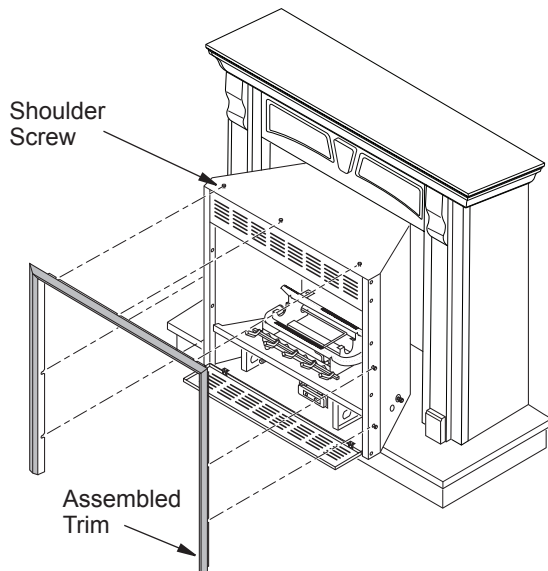

Figure 11 - Inserting Fireplace Into Cabinet Mantel
5. Place trim kit on the shoulder screws located on the side and top of the fireplace. Firmly snap the trim over the shoulder screws on fireplace (see Figure 11). Align fireplace in mantel assembly so that the trim overlaps the mantel evenly on all three sides.